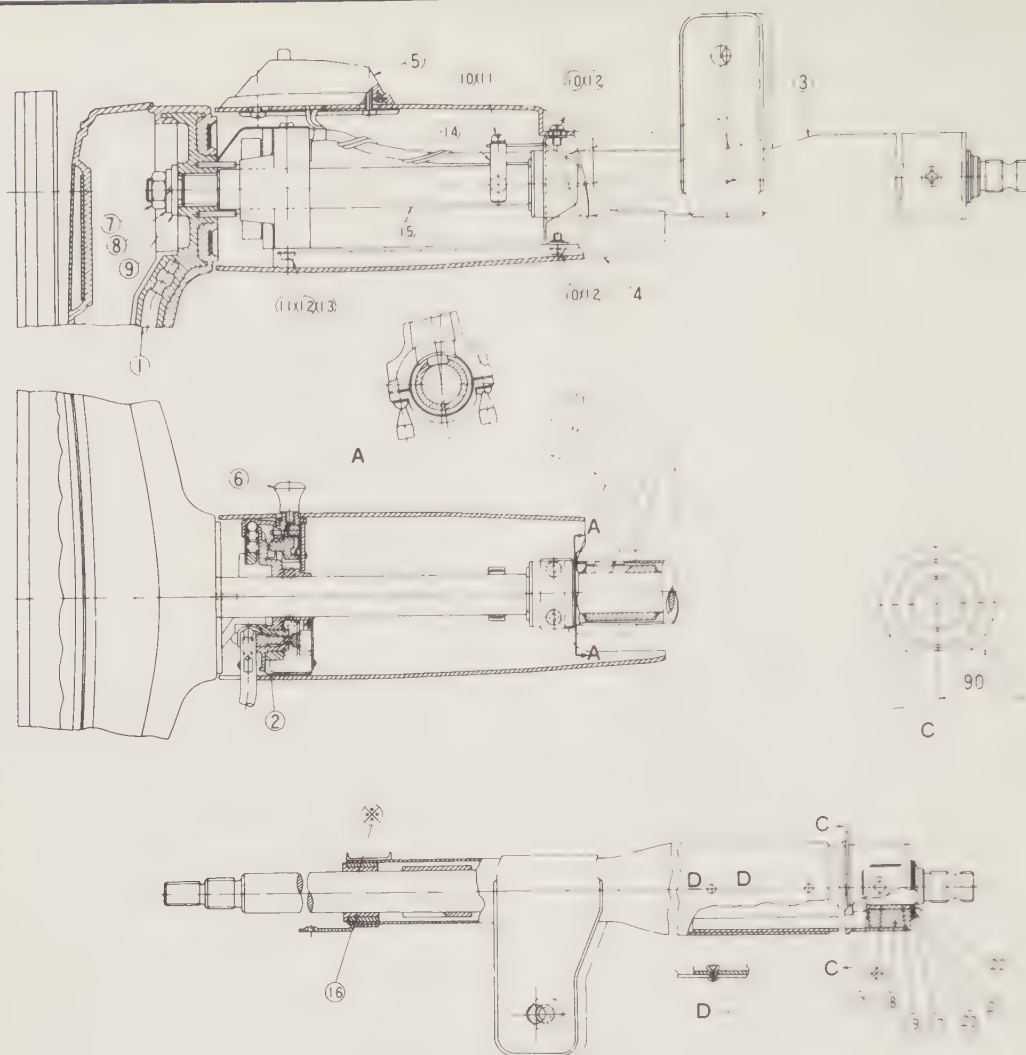

Fig. 8.3. Steering column and wheel assembly
- 3 Refer to Fig. 8.3. Remove the snap-ring and take out the spacer, washer and rubber washer. Remove the screws attaching the steering column to the housing.